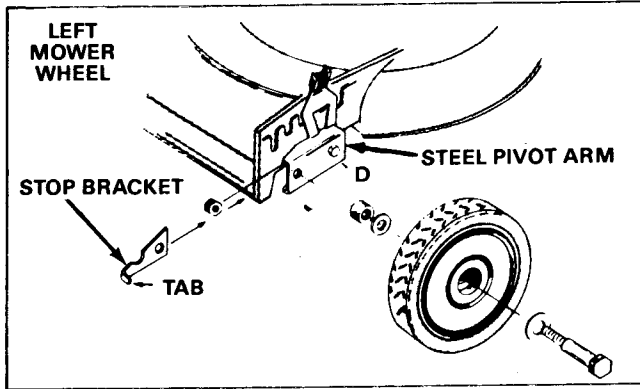

Figure 84
16. Reinstall the LEFT mower wheel as follows (see Figures 84 and 85).